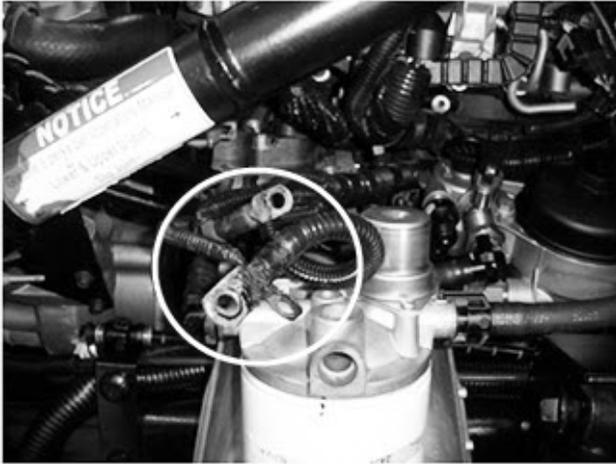

Figure 7
8. Remove alternator harness ends from alternator so that you are able to readjust and reroute cables (Figure 7).